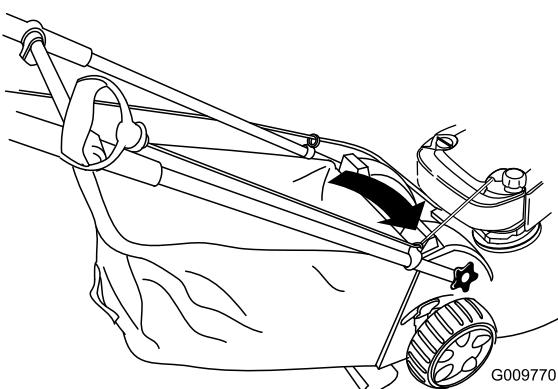

Figure 32
- Route the starter rope around the lower-rope guide (Figure 32).